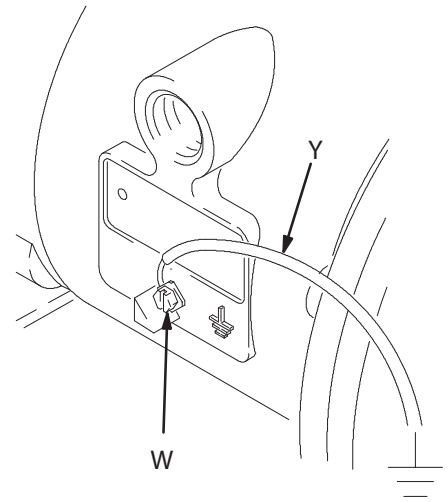

Fig. 1
*Polypropylene and PVDF are **not** conductive.* Attaching the ground wire to the grounding lug will ground only the air motor. When pumping conductive flammable fluids, **always** ground the entire fluid system by making sure the fluid has an electrical path to a true earth ground. See Fig. 1.
- *Air Motor:* Connect a ground wire and clamp as shown in Fig. 1. Loosen the grounding screw (W). Insert one end of a 12 ga (4 mm²) minimum ground wire (Y) behind the grounding screw and tighten the screw securely. Connect the clamp end of the ground wire to a true earth ground. Order Part No. 237569 Ground Wire and Clamp.